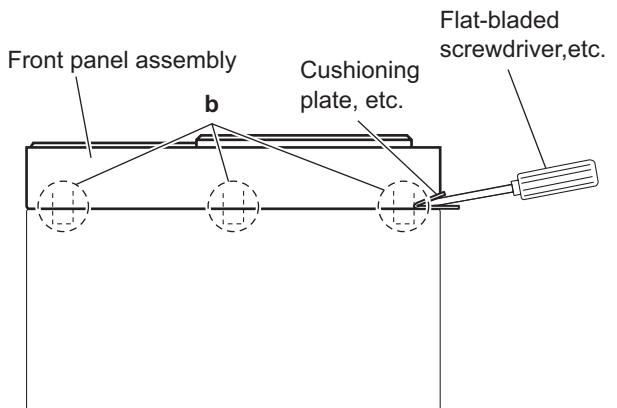

Fig.2
(See Figs.2 and 3)
(1) Insert the tip of a flat-bladed screwdriver or similar tool into the space between the speaker main body and front panel assembly, and lift the front panel assembly little by little to remove the sections **b**. (See Fig.2.)
To prevent damaging the front panel assembly and speaker main body, insert cushioning plates etc. into the space between the speaker main body and front panel assembly. (See Fig.2.)